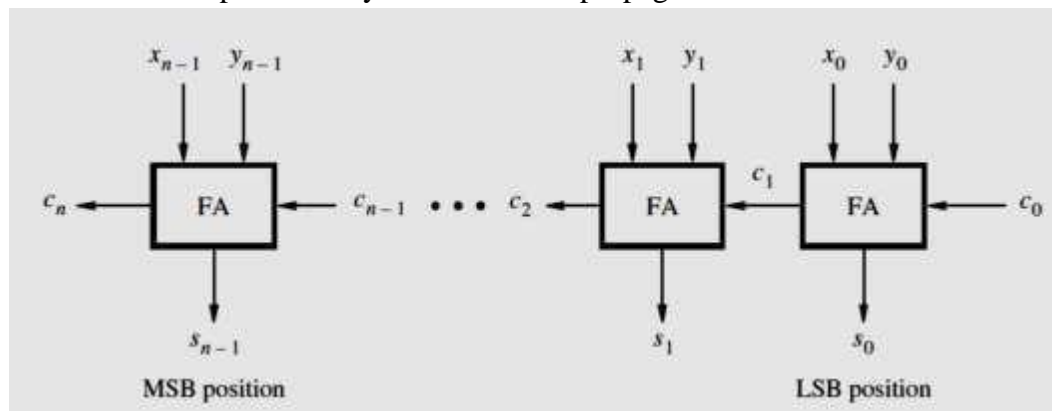

Figure 5.1 An n-bit ripple carry adder
- The circuit is shown in Fig. 5.1